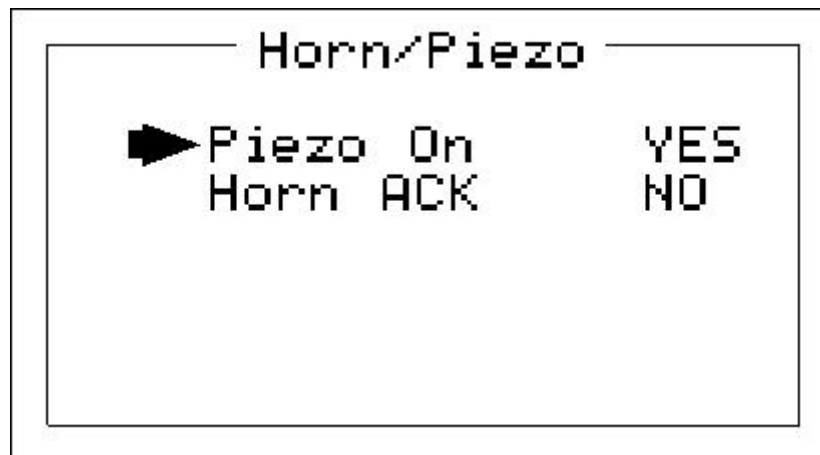

Figure 2.10
- The MODEL 9000 display PCB is equipped with a small audible piezo that chirps when keys are pressed providing an audible feedback to the operator. It also may be set to audibly indicate alarm conditions by entering YES into the **Piezo On** menu item in Figure 2.10. This piezo will then mimic the **Horn** settings menus described in section 2.3.1.